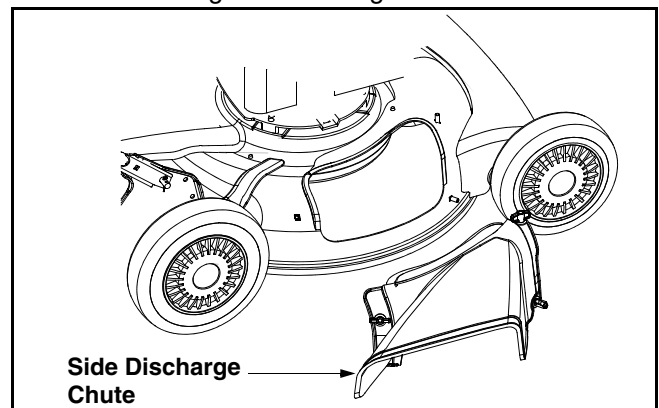

Figure 9
- Attach side discharge chute to unit and secure with the three wing nuts. See Figure 9.